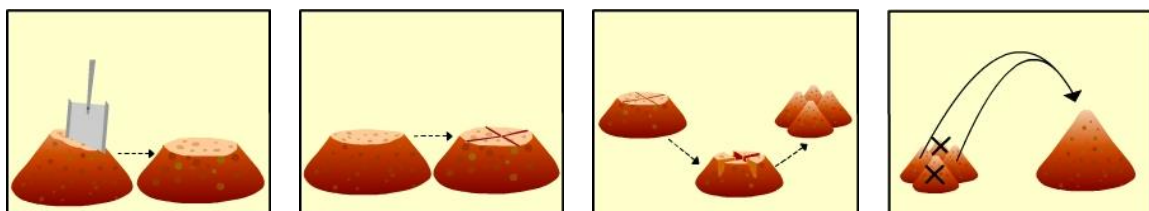

Figure 3: Coning and quartering -, discard two opposite piles.
- iv. Using the shovel divide the flattened pile into quarters and slightly separate them outwards and discard 2 opposite quarters. See Figure 3